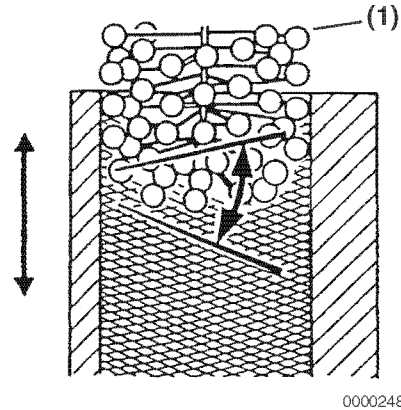

Figure 6-67
Note: When honing a cylinder, with either a ridged hone or a ball hone (**Figure 6-67, (1)**), move the rotating hone up and down in the cylinder bore to accomplish a 30° to 40° crosshatch pattern (**Figure 6-67**). This will provide the ideal surface for the proper seating of new piston rings.